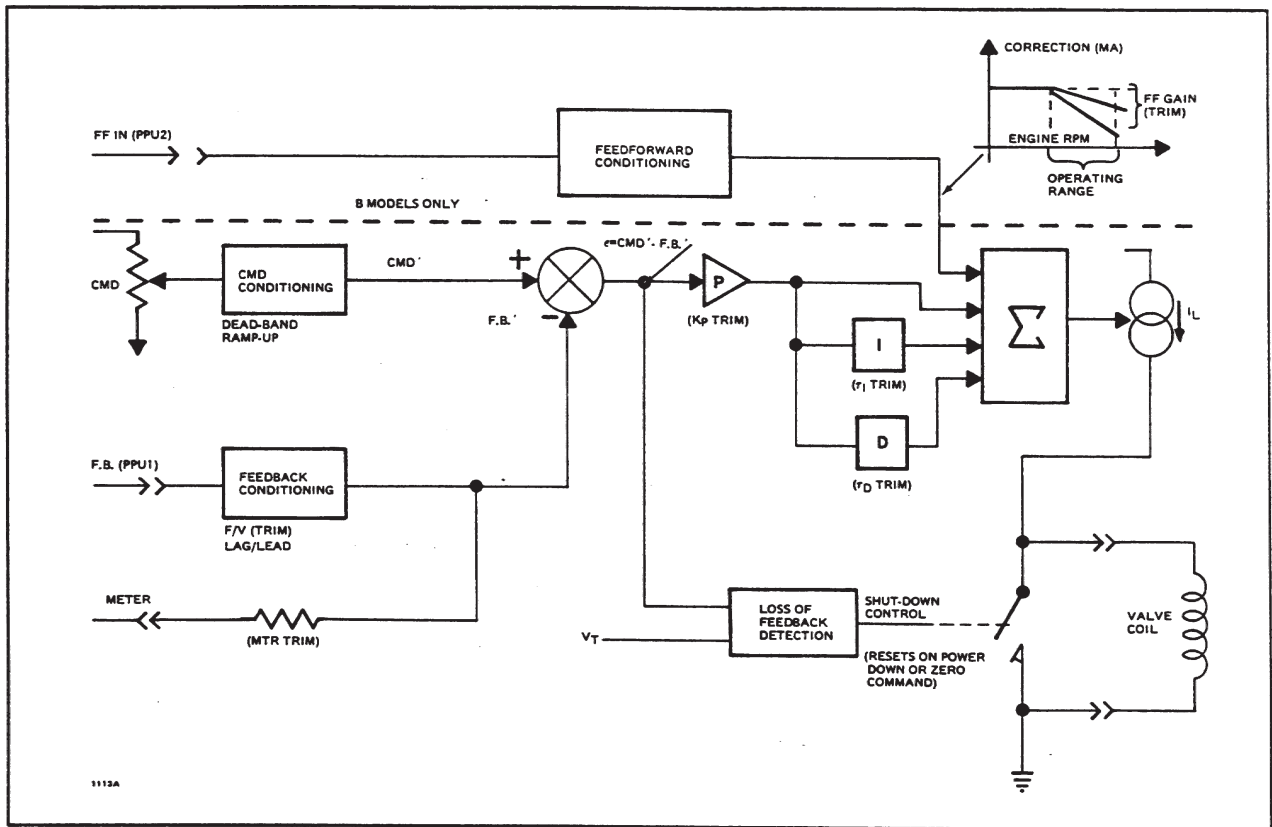

FIGURE 2. Three mode speed control functional diagram.
An internal or external command signal proportional to the desired hydrostatic transmission speed is input to the MCE100 PID Controller. See Figure 2. Command conditioning circuitry provides a slow ramp up to prevent excessive start up acceleration and a quick ramp down for safety in sudden stops. A low limit threshold must be crossed before any control action begins. This low speed limit is imposed by inherent constraints on the feedback pulse rate in a responsive closed loop control system and by loss of feedback considerations.
The error signal is then passed to the PID stages. The first correction mode, proportional (P), increases the corrective output in response to the magnitude of the error - the larger the error, the bigger the response. The proportional stage allows the system to respond almost immediately to changes. It acts in series with the paralleled I and D stages, as shown in Figure 2. The second correction mode, integral (I), increases the output with the integral of time - error is summed as time progresses, and by adding these signals over time even small errors can be recognized and corrected, giving zero-droop control. The third correction mode, derivative (D), increases the output with the derivative of time - fast changes produce a large corrective signal. The derivative stage adds stability to most systems.